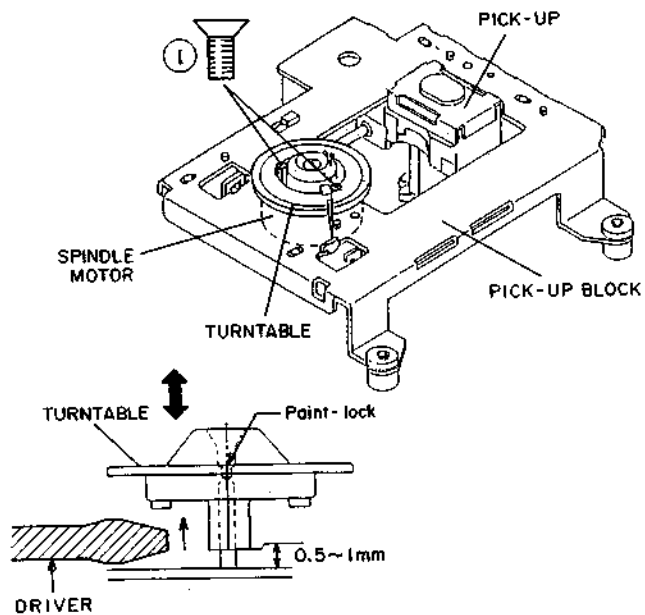

Fig.3-8
- 2) Remove the SPINDLE motor retaining screws ①.
- Put the turntable on to the spindle motor shaft and adjust the turntable so that the height of the turntable from the chassis is 0.5 to 1.0 mm as shown in Fig 3-8.